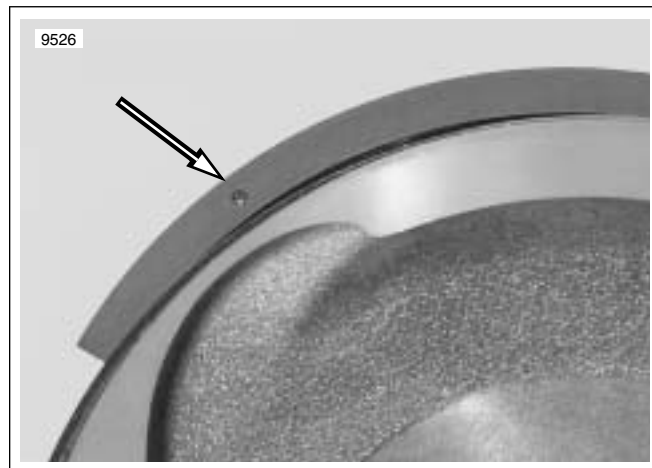

Figure 3-224. Second Compression Ring Top Mark
33. See Figure 3-224. Carefully install piston rings. Second compression ring is installed with the mark to the top. When ring set is installed, gaps must be staggered.